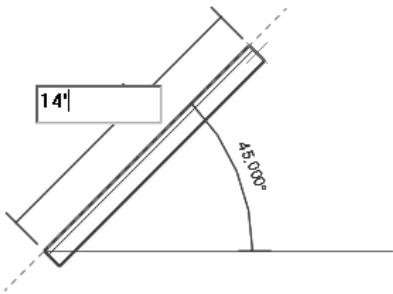

Figure 3-39 Sketching the first inclined wall segment
- f. Select the **Line** sketching option and sketch the inclined wall profile using the **Chain** option, refer to Figures 3-39 through 3-45.
4. Enter the value **14'0"** to specify the length of the first wall segment; the value is displayed in the edit box, as shown in Figure 3-39. Press ENTER to create the first wall segment of the specified length.